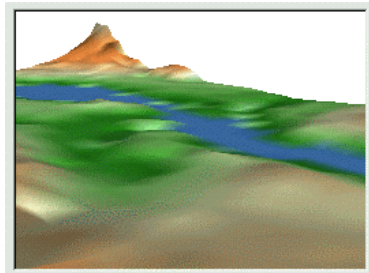

Figure 14.9. **Smooth** renders a colour gradient.
- a) **Smooth** renders a colour gradient between each grid cell when rendering a scene. This can greatly improve the appearance of low resolution grids (see Figure 14.9).